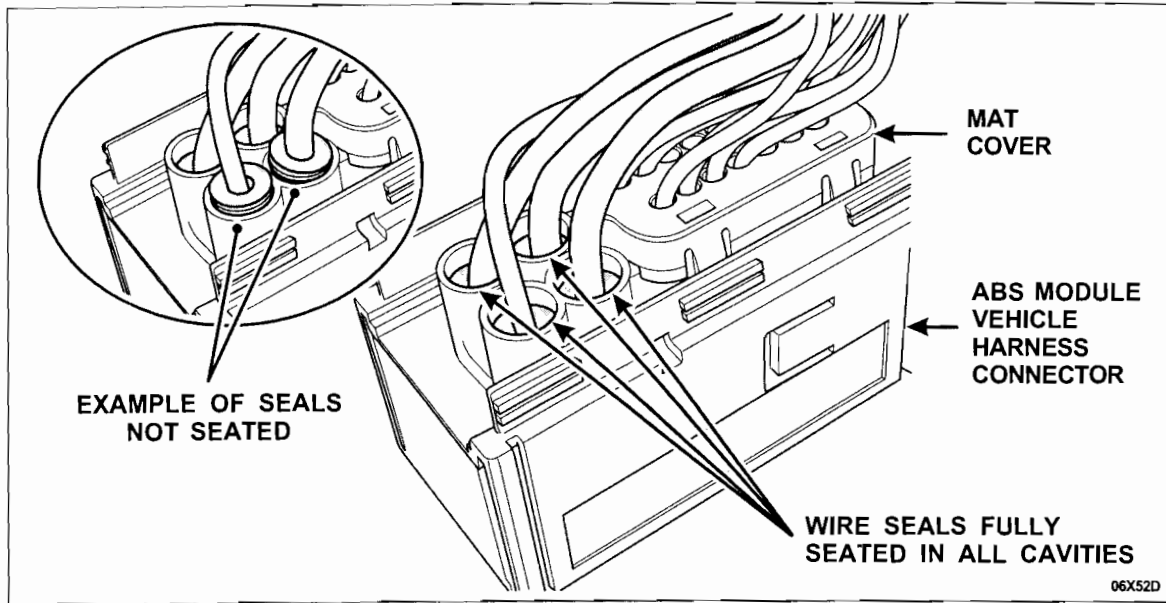

FIGURE 24
1. If the seals are not fully seated, reseal any seals not fully seated with a blunt tool. DO NOT use anything sharp such as a screwdriver, awl or punch that could penetrate the seal and allow moisture to enter the terminal. See Figure 24.